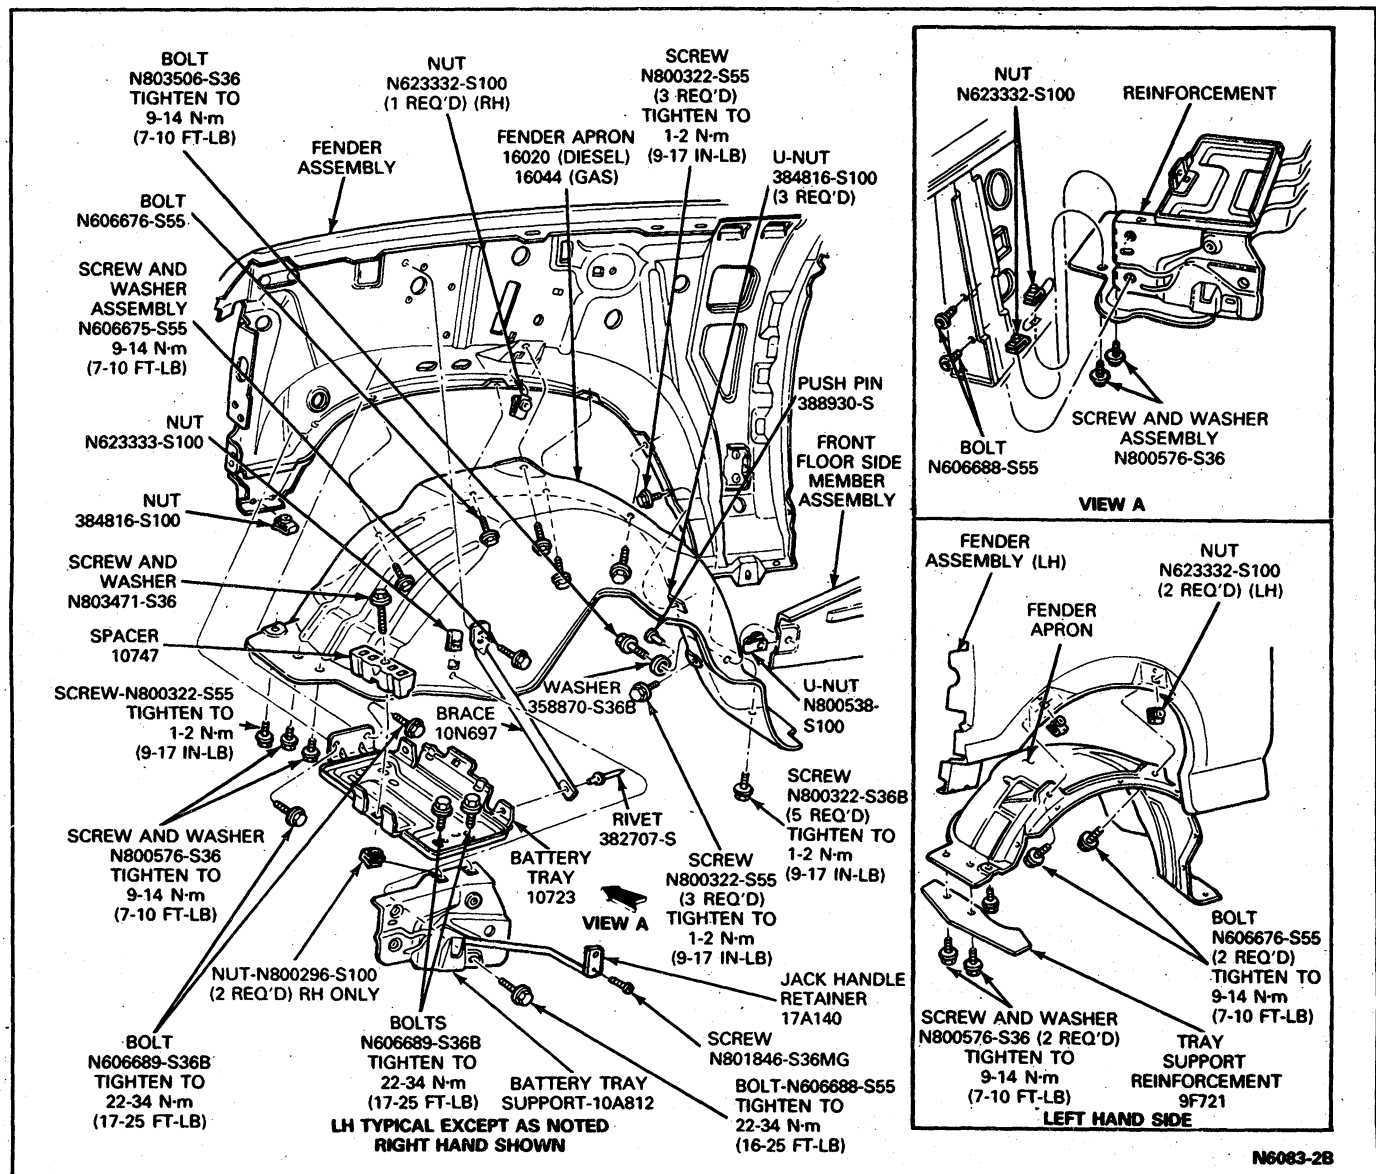

FIG. 3 Fender Apron Installation, Right Side—F-150—F-350 and Bronco
7. Remove screws around wheel opening attaching the fender apron (Fig. 3).